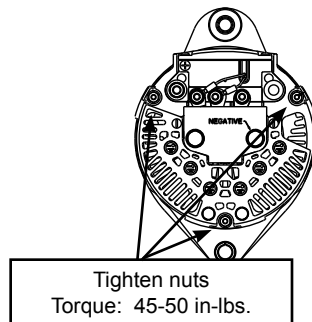

Fig 4
Note: On 4800 J-180 models it is important to line up the stator through bolt holes with the rear housing holes in order to insert the through bolts. See Fig 4
Step 5: Insert through bolts and torque nuts to 45-50 in-lbs. See Fig 4